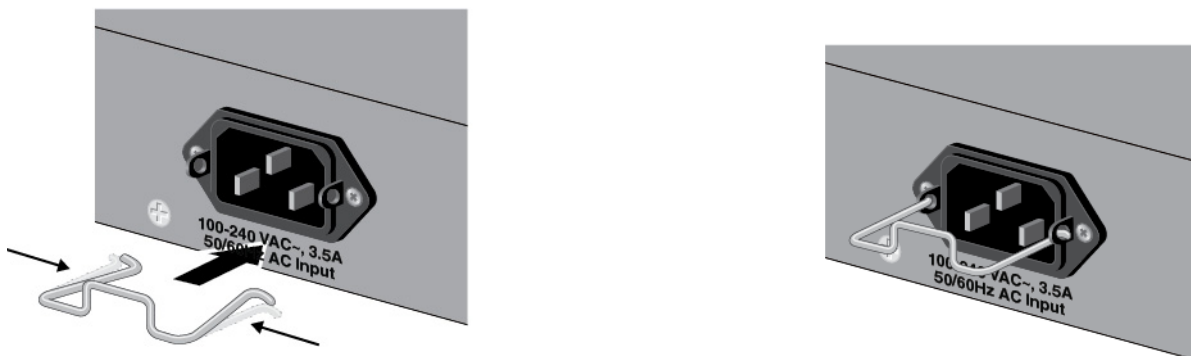

Figure 44. Installing the Retaining Clip
1. To install the power cord retaining clip, position it with the “u” part facing down, press in the sides, and insert the ends of the clip into the holes in the retaining bracket on the AC connector. Refer to Figure 44.